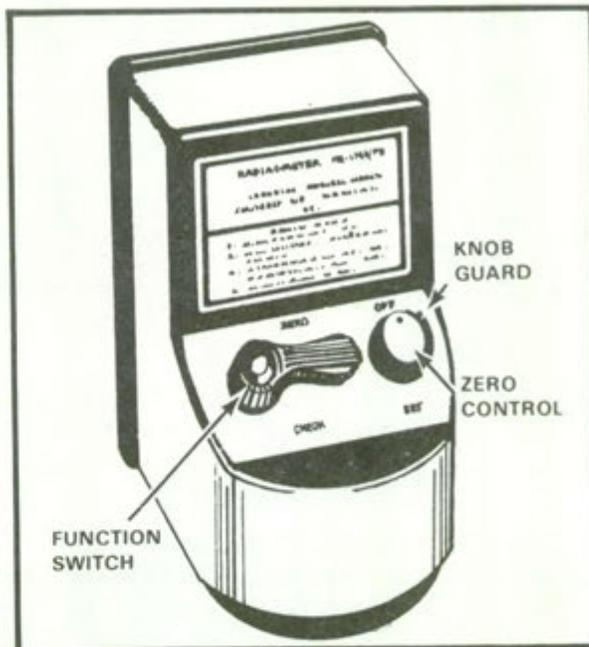
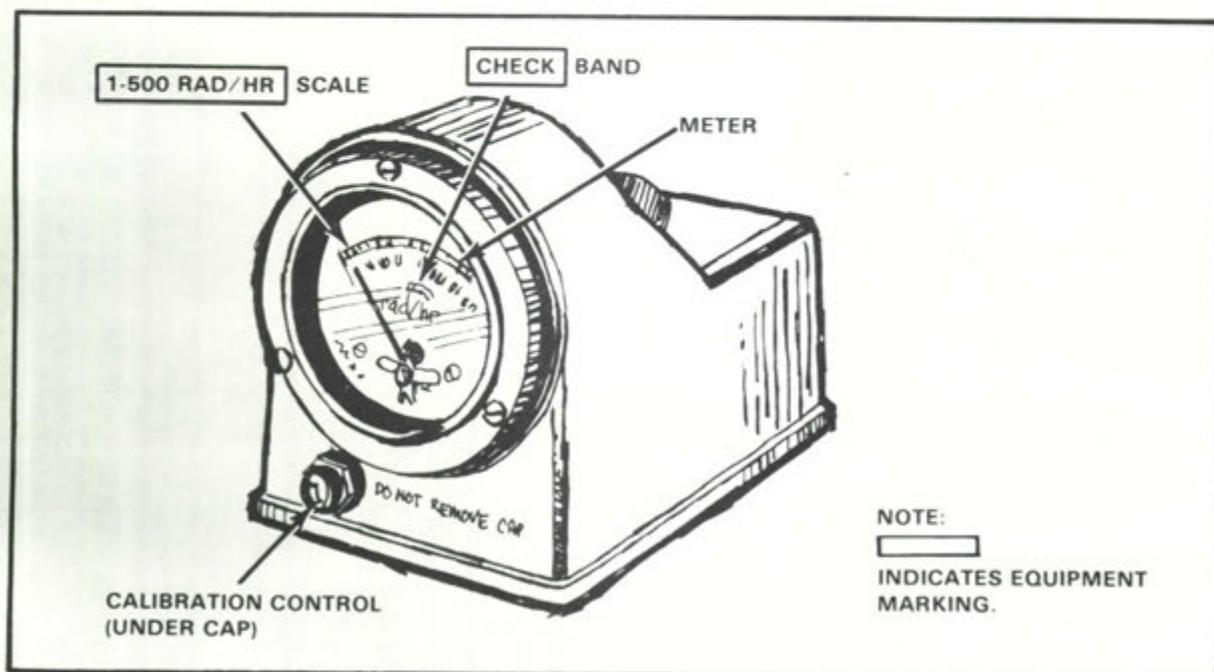

Figure 2. Radiacmeter controls.
Figure 7. Radiacmeter (without instrument light), front and right side.
- b. Set the zero control (figure 2) to OFF.
b. Turn on the radiacmeter by turning the zero control (figure 2) clockwise from OFF. Allow at least 2 minutes for the radiacmeter to warm up; if time permits, allow 20 minutes for complete warmup.
c. Press and hold the function switch to ZERO and adjust the zero control until the meter (figure 2) indicates 0 (zero).
d. Release the function switch (figure 2); the pointer of the meter (figure 7) should swing up-scale to between 5 and 10 rad/hr, then fall back to 0.